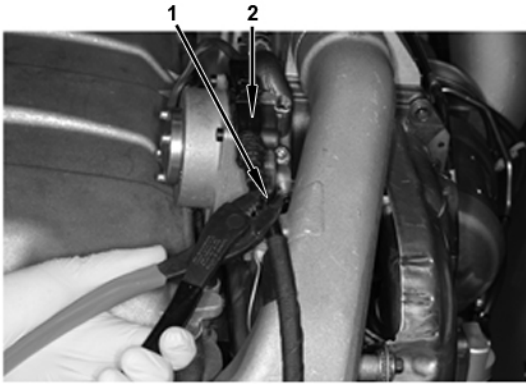

Figure 3 EGR Valve Electrical Connector
6. Cut and remove wire tie (1) near EGR valve electrical connector (2) (Figure 3).